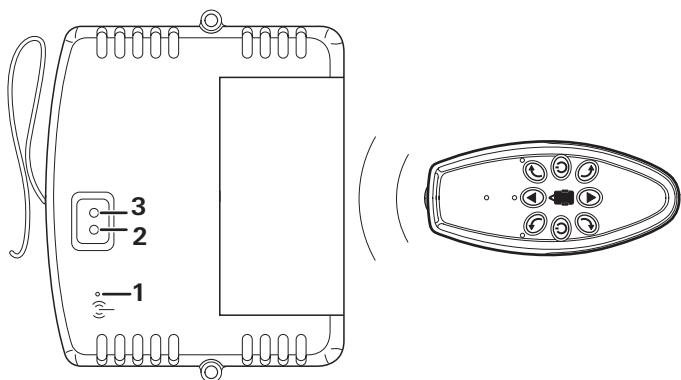

Figure 12
- Press the reset button (Figure 12 - 1) on the remote control with a thin object. The antenna of the control unit can be used for this.
The green and red LEDs (Figure 12 - 2/3) on the remote control now flash alternately.